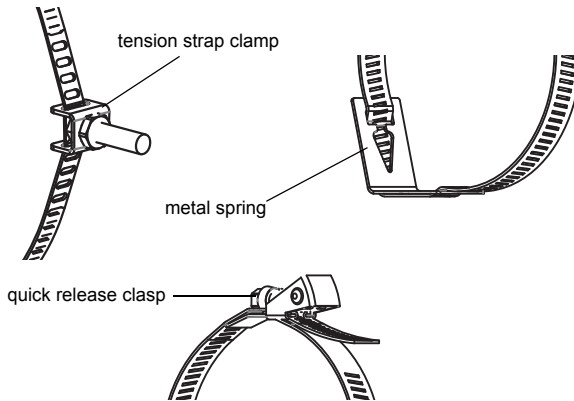

Fig. 7.8: Tension strap with quick release clasp, metal spring and tension strap clamp
- Insert the tension strap in the tension strap clamp and the metal spring (see Fig. 7.8).
- Place the tension strap around the pipe and insert it in the clasp (see Fig. 7.8).